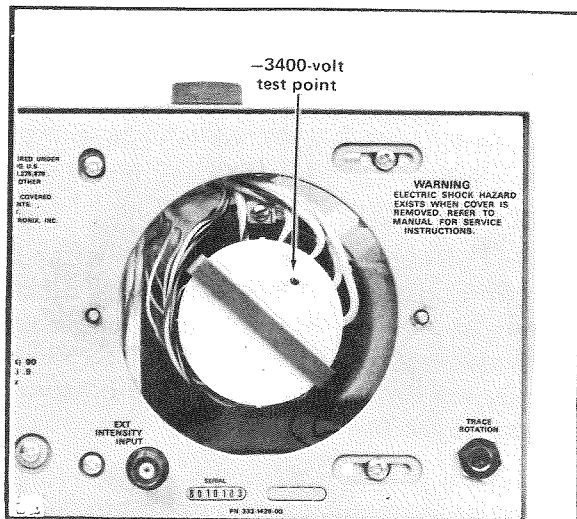
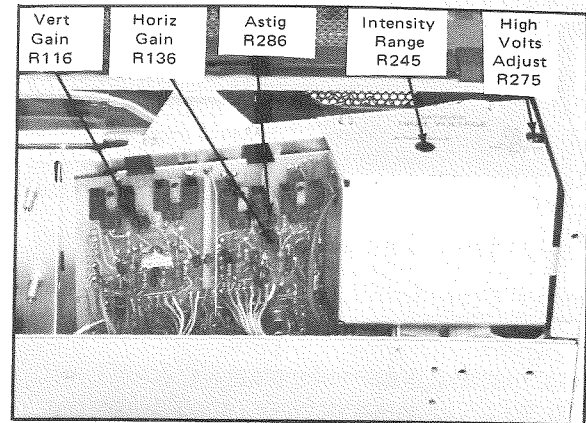

Figure 4-2. 640 Mainframe, -3400V Test Point
Figure 4-3. 640 Mainframe, HV and CRT Display Adjustments
4. Connect a high-voltage probe to the -3400 volt test point shown in Figure 4-2. If the High Voltage is not within $\pm 170V$ of $-3400V$, adjust High Volts Adj R275. (See Figure 4-3 for the location of R275.)
2. Adjust Intensity Range R245 fully CCW (Figure 4-3).
5. Adjust Astig R286 and FOCUS control for best definition of the trace on the CRT (Figure 4-3).
2. Adjust Geom R285 so the display dot is circular and in focus (Figure 4-3).
- j. On the mainframe, adjust Vert Gain potentiometer R116 so the display trace is exactly on top of the top horizontal graticule line (Figure 4-3).